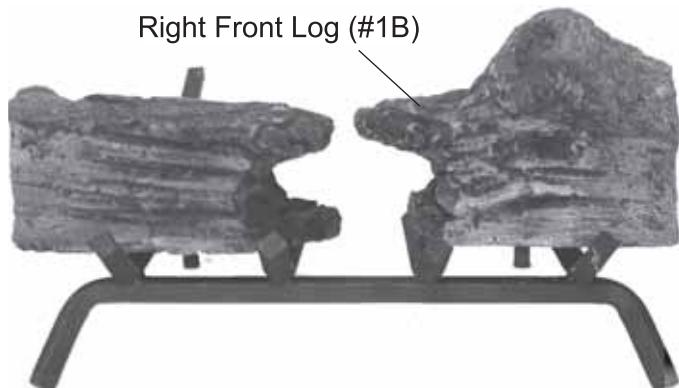

Figure 95 - Placing Right Front Log (#1B) on Grate
3. Place Right Front Log #1B on front right of the grate. *See Figure 95.*